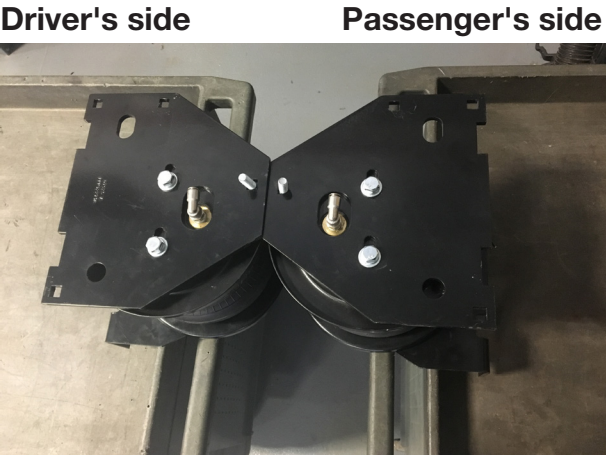

fig. D.16
8. Figure D.16 shows the driver's and passenger's side assemblies.